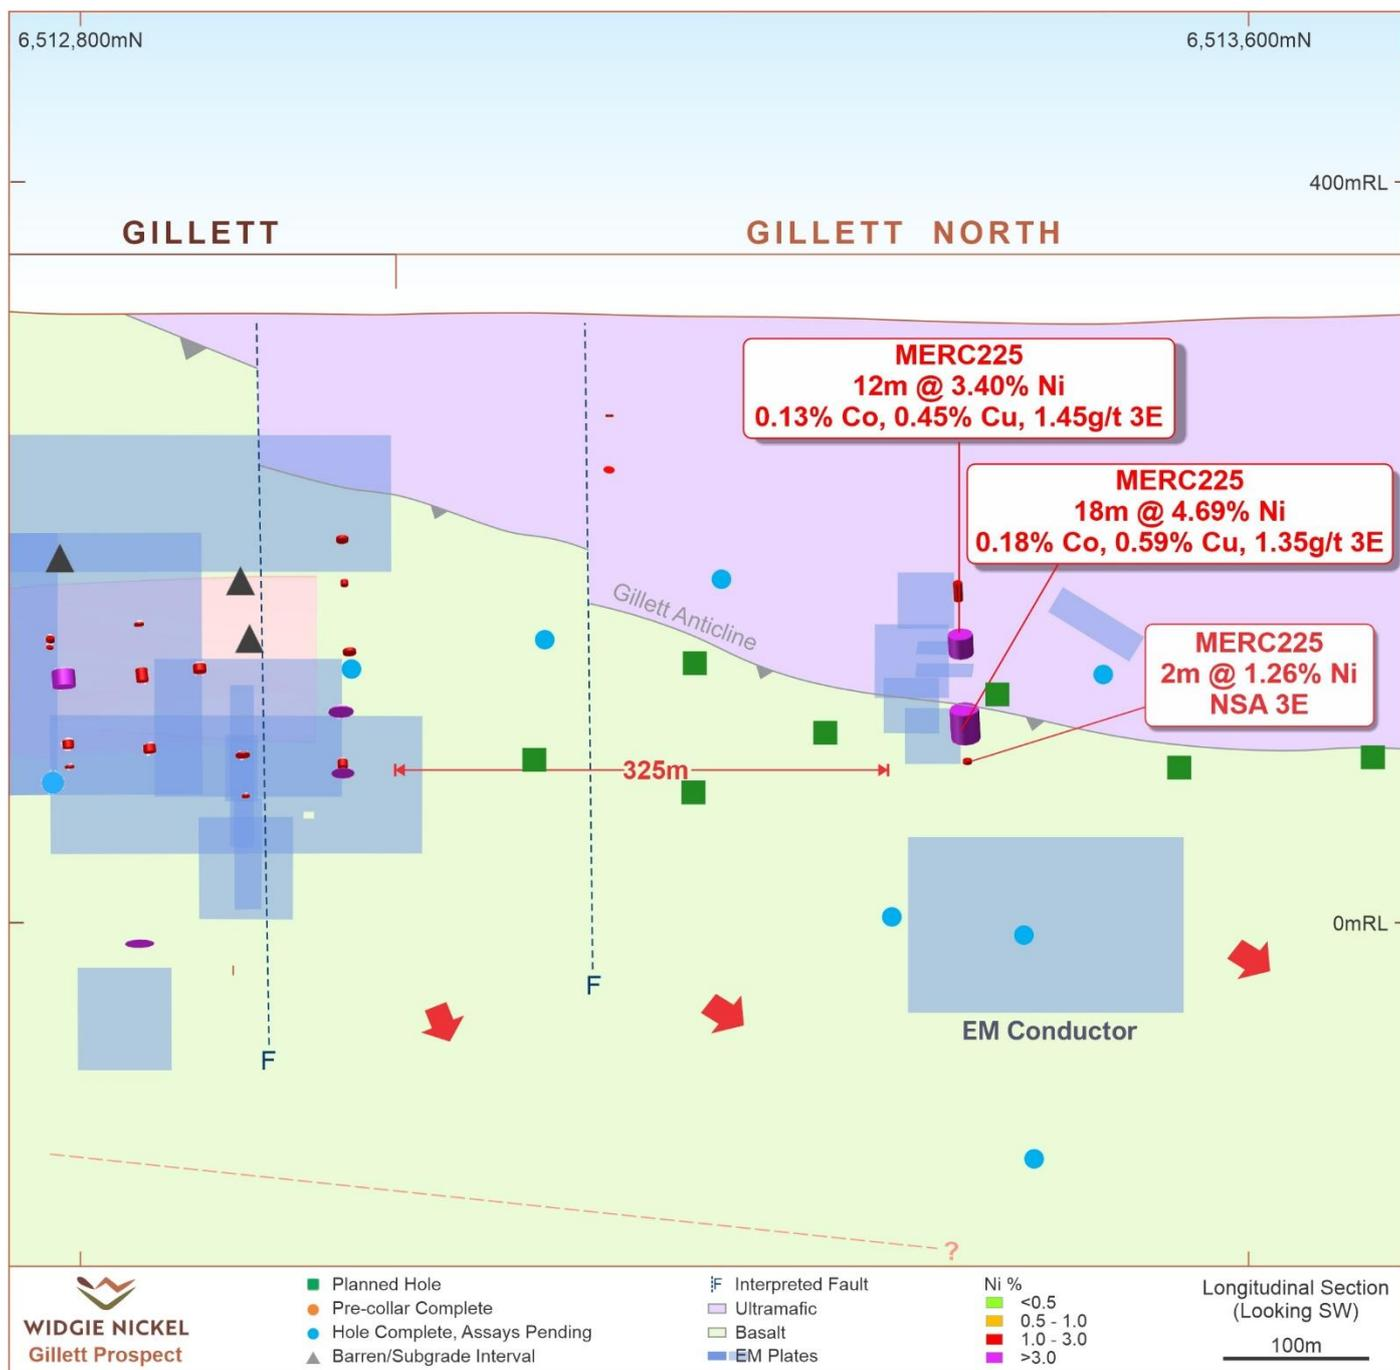

Figure 1 – Long section looking south-west showing recent drilling at Gillett North, MERC225 and DHEM conductors
Widgie Nickel Limited (ASX: **WIN**, “**Widgie**” or “**the Company**”) is pleased to announce that the by-product assays have been received for reverse circulation (RC) hole MERC225 at the Gillett North discovery. The by-product grades are significant in their own right, however when coupled with the previously announced Nickel assays (*Refer ASX announcement 27 June 2022 – Assays confirm High-grade nickel sulphide discovery at Gillett North*) provide potential for significant value uplift to the nickel mineralisation at Gillett and Gillett North (Figure 1).